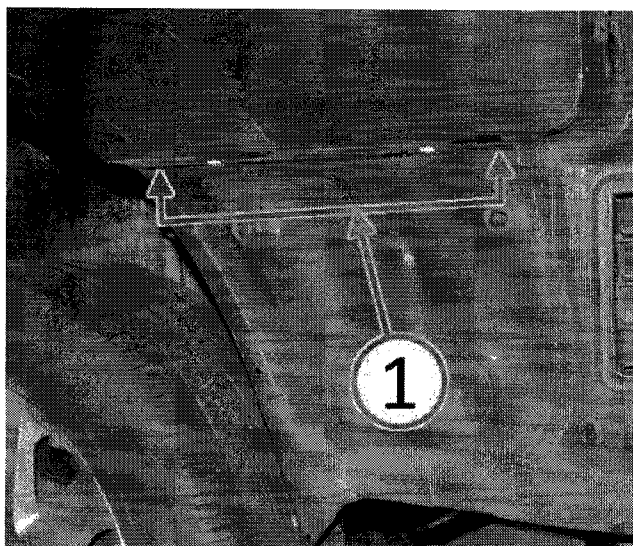

Fig. 1 Clean Fascia Support Flange Slot
3. Clean inside the left side fascia support flange slot to remove any dirt or debris (Fig. 1).